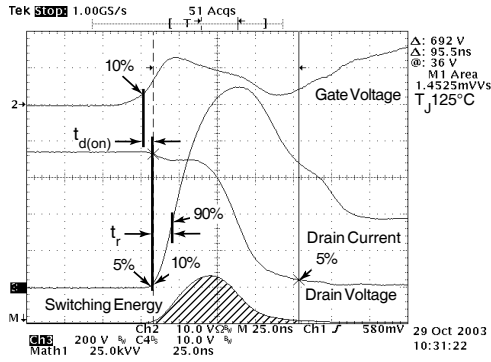

Figure 18, Turn-on Switching Waveforms and Definitions
① Repetitive Rating: Pulse width limited by maximum junction temperature
② Pulse Test: Pulse width < 380 μs , Duty Cycle < 2%
③ See MIL-STD-750 Method 3471
④ Starting $T_j = +25^\circ C$, $L = 15.43mH$, $R_G = 25\Omega$, Peak $I_L = 18A$
⑤ dv/dt numbers reflect the limitations of the test circuit rather than the device itself. $I_S \leq -I_D 18A$ $di/dt \leq 700A/\mu s$ $V_R \leq V_{DSS}$ $T_j \leq 150^\circ C$
⑥ E_{on} includes diode reverse recovery. See figures 18, 20.